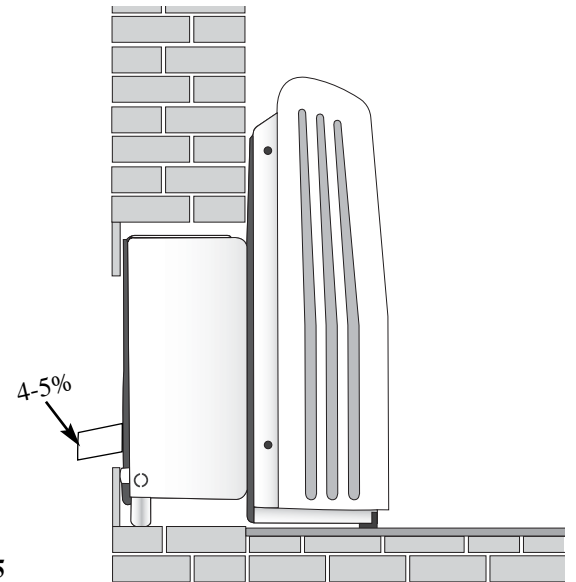

fig. 5
**IMPORTANT:** make sure that the downward inclination of the condensate drainage outwards is in the range of from 4 to 5% (**fig. 5**): slowly pour water into the condensing unit's condensate collection tray and then make sure that the pipe prepared above drains this water correctly.